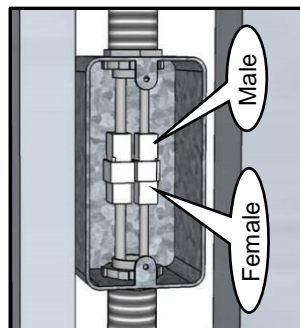

Figure 12
- 2 On 2-stop dumbwaiters, one set of wires has female connectors and the other set has male connectors. Match up each male and female connector and seat them firmly together. (see Figure 12)